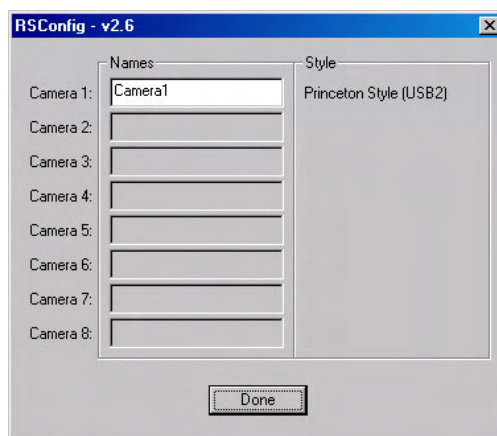

Figure 158. RSConfig dialog box
4. When the RSConfig dialog box (Figure 158) appears, you can change the camera name to one that is more specific or you can keep the default name "Camera1". When you have finished, click on the **Done** button.